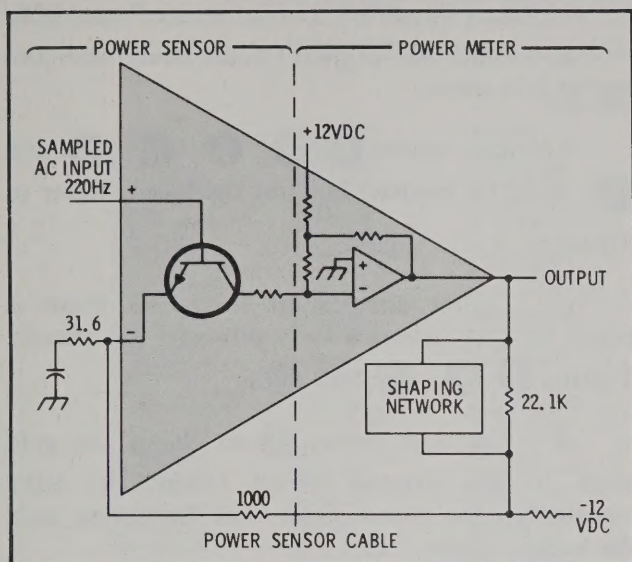

Figure 10. Hybrid Operational Amplifier
44. The thermocouples contained in the Model 8483A present a 75-ohm load to the RF signal coupled into the Power Sensor. As the RF signal is dissipated by the thermocouples, they generate a dc voltage that is proportional to the RF input power. This dc output is coupled to the FET sampling gate (chopper) circuit where it is sampled at a 220 Hz rate. The gate circuit output is therefore a 220 Hz ac signal whose amplitude is proportional to the RF input power. The ac signal is amplified approximately 750 times by a hybrid operational amplifier made up of the power meter's first amplifier and the Input Amplifier of the 8483A. Figure 10 is a simplified diagram showing the hybrid operational amplifier circuit configuration.